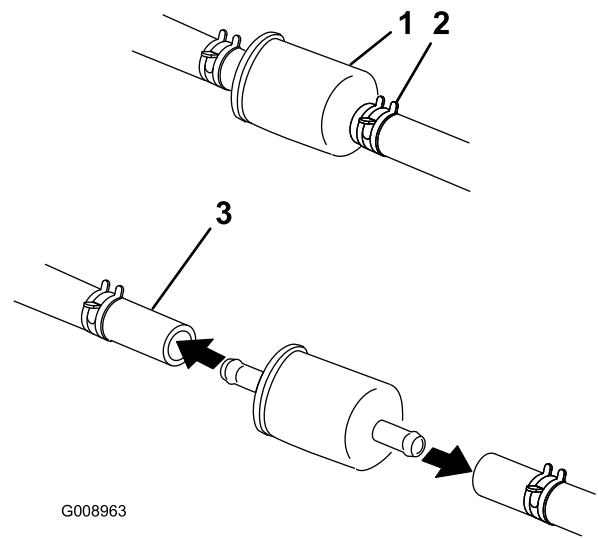

Figure 55
5. Close the fuel shutoff valve under the seat (Figure 55).
6. Squeeze the ends of the hose clamps together and slide them away from the filter (Figure 55).
8. Install a new filter and move the hose clamps close to the filter (Figure 55).